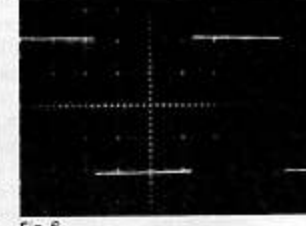

Fig 6.
- Fig 6. 1kHz squarewave, 8 ohms.
Fig 6. Half power squarewaves. (a) 1kHz/eight ohms. (b) 20kHz/eight ohms, which is adjusted relative to graticule to show rise-time. Sweep 10µsec./div hence rise-time circa 4.5µsec., which is mildly affected by setting of volume control. (c) 10kHz/eight ohms in parallel with 2µF, showing overshoot. (d) 40Hz/eight ohms, indicating good low-frequency performance.